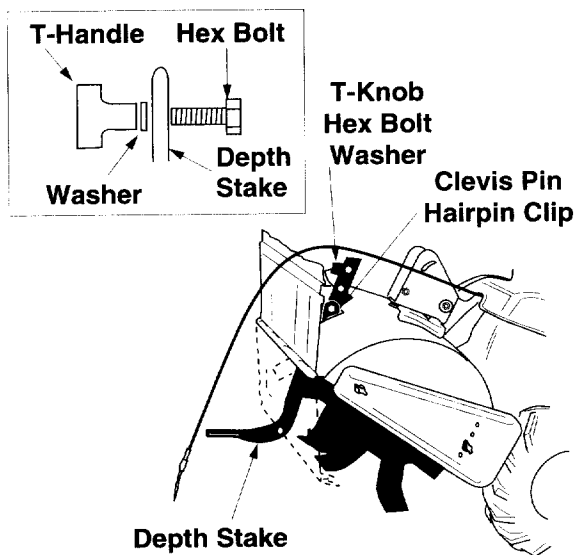

Figure 3
4. Insert hex bolt into the top hole of the depth stake assembly. Place flat washer onto the hex bolt and thread "T" knob onto the hex bolt. See Figure 3. Tighten securely.